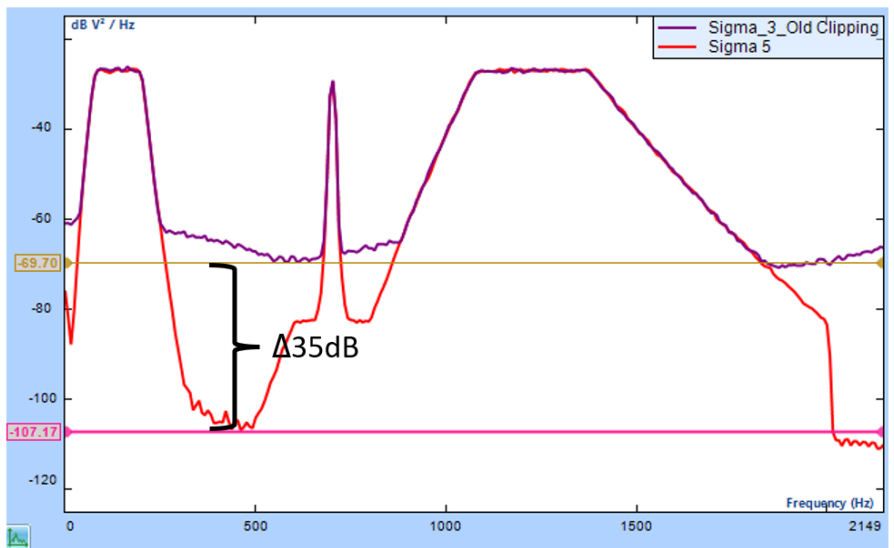

Figure 3. Drive signals auto power spectrum
1. Loss in dynamic range: The dynamic range of a controller is the maximum and minimum value that can be controlled simultaneously. To expand further, consider **Figure 3**. Without sigma clipping, the dynamic range of the drive signal (measured by the presence of a notch between 300 Hz – 700 Hz), is higher by 35 dB when compared to the drive signal with a sigma clipping value of 3 using the old method.